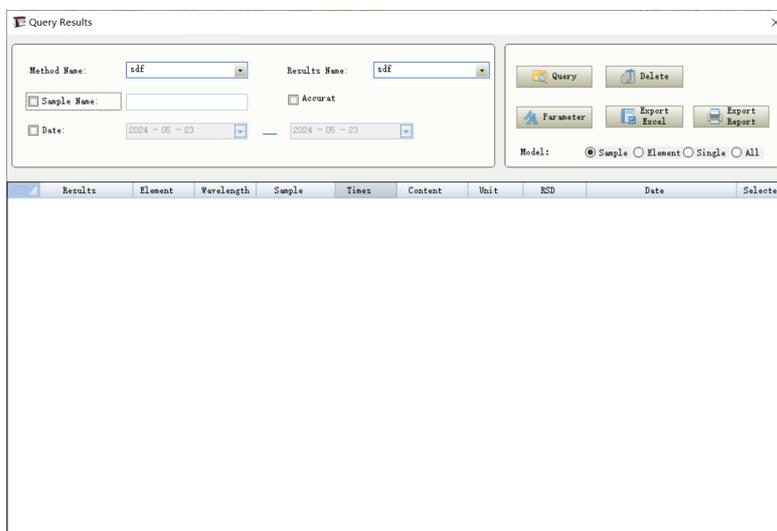

Figure 5.21 Results query interface
5.7. The window is shown in Figure 5.21: